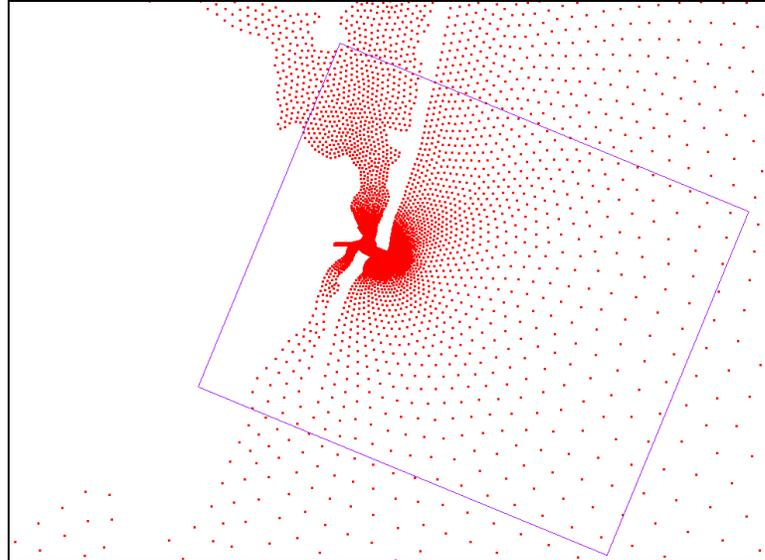

Figure 3 Grid dimensions
8. Using the **Create 2-D Grid Frame**  tool, define the extents of the computational domain. This is done with three clicks (see Figure 3).
- The first click defines a corner of the CMS-Flow domain. Click in the region near the lower left corner of the domain shown in Figure 3.
- The second click defines an edge of the domain and the extent of the domain along that edge. Click near the lower right of the domain shown in Figure 3.
- The third click defines the extent of the domain perpendicular to the first edge. Click at the upper right corner of the domain to define this distance. The purple line in Figure 3 illustrates the desired grid frame. It is okay if the final grid frame does not appear exactly like the example. The exact dimensions will be set in a later step.